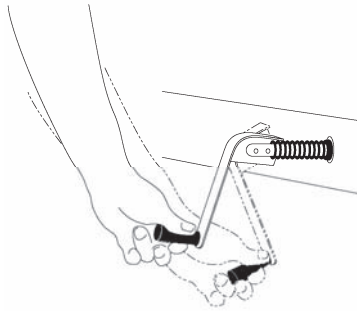

Figure 2.1A
- **To extract a retract standard hand crank (Figure 2.1A):**